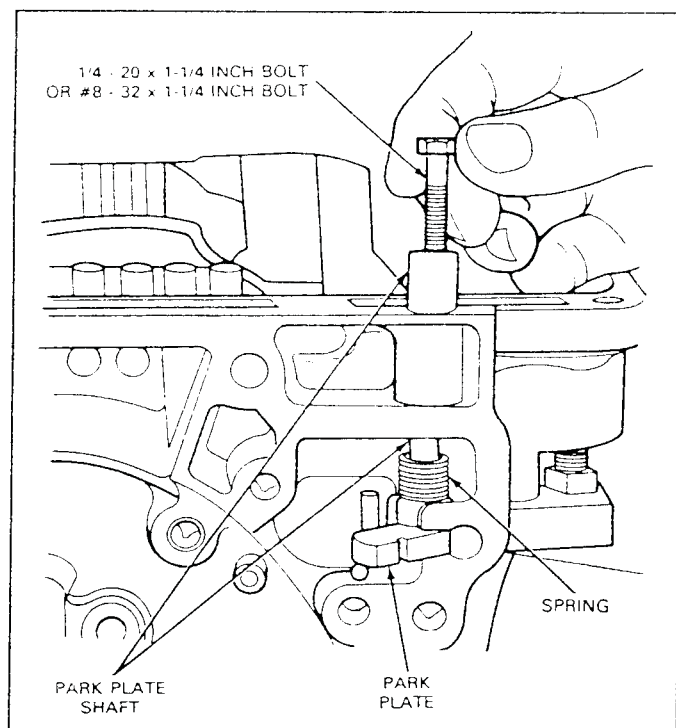

FIG. 32 Removing Park Plate
5. Thread a 1/4-20 inch or 8-32 x 1-1/4 inch screw (Fig. 32) into the park plate shaft. Pull the shaft from the case with the screw. Remove the spring and park plate.